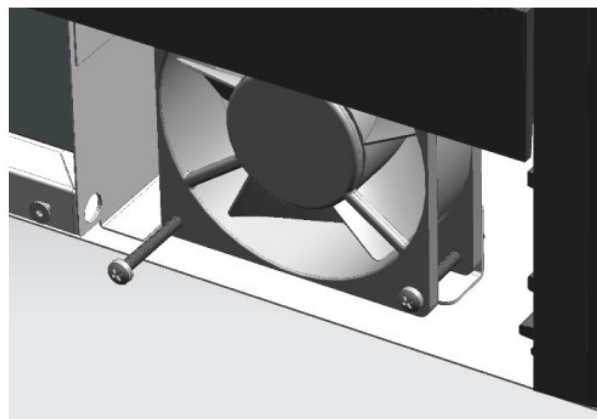

FIG. 6
2. Loosen the screws holding the fans (Fig. 6)